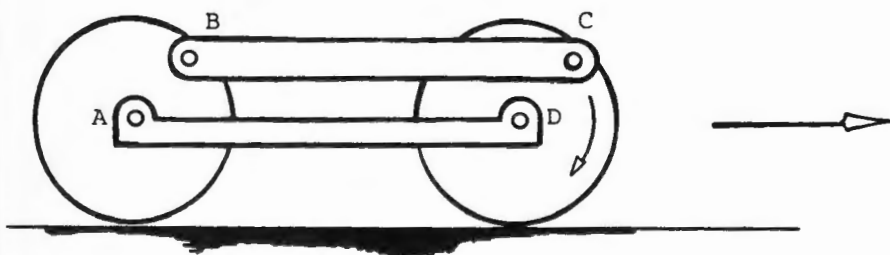

Figure 1.10 Locomotive side rod drive. Link BC undergoes curvilinear motion; link AD undergoes rectilinear translation.
In plane motion all points on a body in motion move in the same plane or parallel planes. All points of the body or system of bodies remain at a constant distance from a reference plane throughout the motion. Typical examples are the connecting rod on a slider-crank mechanism (Figure 1.1) and the side rod on a locomotive (Figure 1.10). There are three classes of plane motion: (1) rotation, (2) translation, and (3) combined translation and rotation.
- b. **Curvilinear translation**, where all points in the body move along similar (or parallel) curved paths. Curvilinear translation is not to be confused with rotation, where all paths on the body are in the form of concentric circles. A good example is the locomotive side rod in Figure 1.10. Note that the paths of any two points on the rod, say, B and C, have the same curvature.